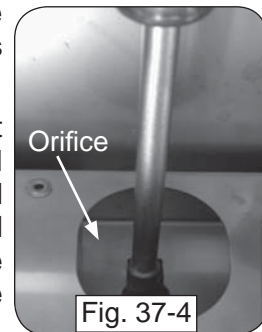

Fig. 37-4
5. Use a $\frac{3}{8}$ " hex nut driver to remove the exposed orifice (Fig. 37-4) and replace it with the correct orifice for the new gas. (See Table 1 at the beginning of this document for orifice sizes.)